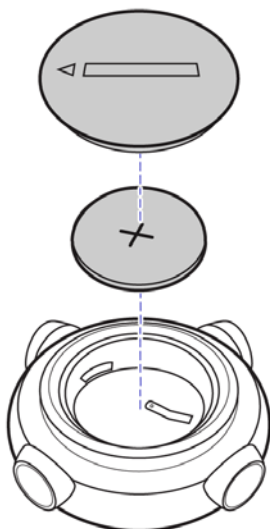

Figure 1-13: Remove or Install Wireless InfoKey Controller Battery
3. Using a coin or a flathead screwdriver, unscrew back cover of Wireless InfoKey controller and remove battery. See Figure 1-13.
3. Insert Wireless InfoKey controller battery with positive (+) side showing. See Figure 1-13.